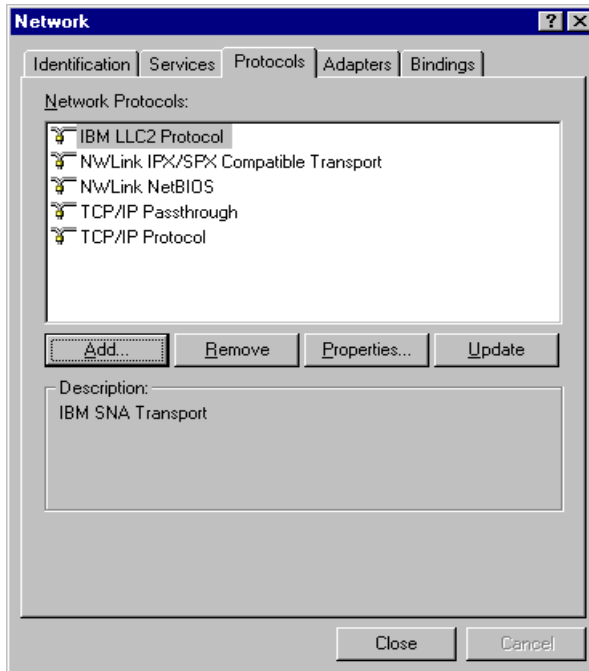
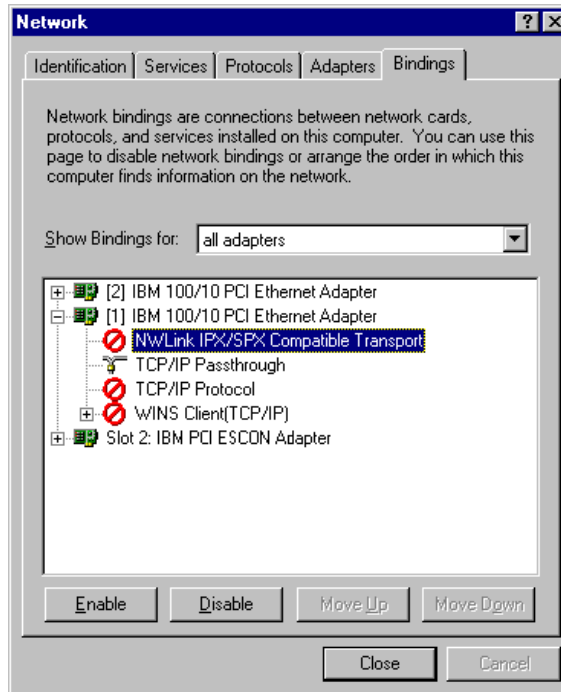

Figure 9-7. Network Protocol list with TCP/IP Passthrough
Figure 9-8. Network Bindings for all Adapters
5. The Network dialog Protocol page will redisplay (Figure 9-7). You should now see TCP/IP Passthrough on the list of installed protocols.
6. TCP/IP Passthrough requires dedicated LAN adapters. You must disable all other services and protocols bound to LAN adapters that are planned for use with TCP/IP Passthrough. Click on the **Bindings** tab in the Network screen (Figure 9-7). Then select **All Adapters** to display the list of installed adapters in the server. Expand the bindings for any adapter that you plan to use for TCP/IP Passthrough. Highlight and **Disable** all services and protocols bound to the adapter except for TCP/IP Passthrough. Figure 9-8 shows a properly configured LAN adapter.